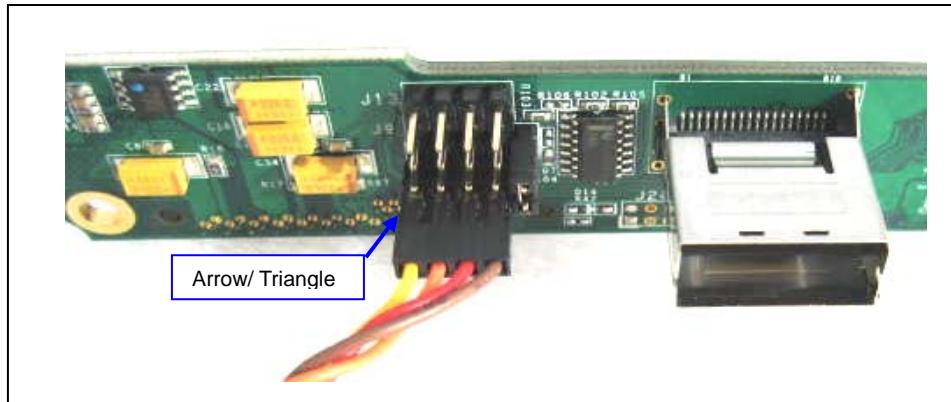

Figure 2 The 4-pin Connection to the Backplane Board
1. The 4-pin Cable Connector of the LED Discrete Cable must be connected to the Backplane Board on the lower Row of J9 (Arrow/ Triangle of Cable Connector to pin-1 of J9) as shown on Figure 2.